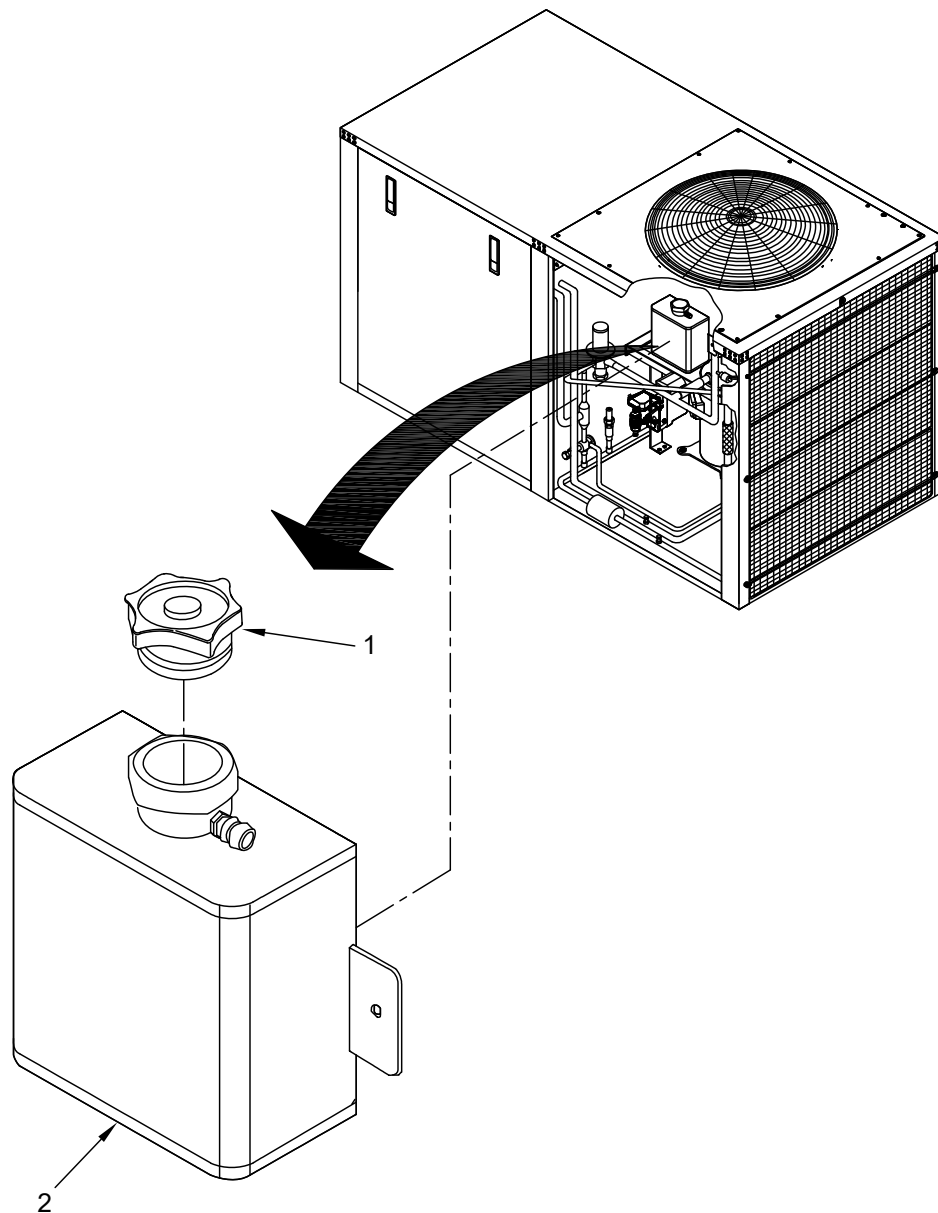

Figure 2. ECU Heater (Hydronic) Coolant Reservoir.
3. Turn radiator cap (Figure 2, Item 1) of ECU heater (hydronic) reservoir (Figure 2, Item 2) counterclockwise to open.
4. Check and fill reservoir (Figure 2, Item 2) as needed.
1. Install radiator cap (Figure 2, Item 1) to reservoir (Figure 2, Item 2) and turn clockwise to tighten.